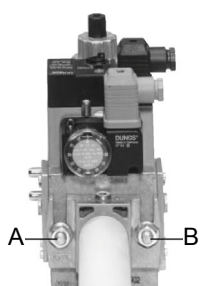

Fig. 2
3. tighten screws A, B, C and D (Fig. 2 - Fig. 3), according to the mounting positions (Fig. 5);